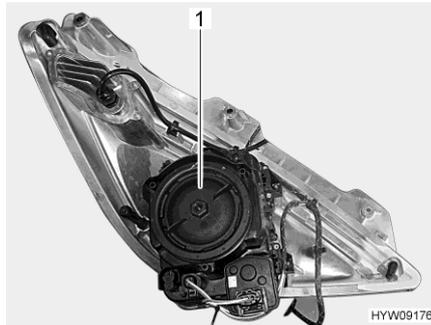

Fig. 228 Front headlight (rear side)
- Turn the housing cover (Fig. 228,1) in an anticlockwise direction and remove.
- Place the housing cover (Fig. 228,1) and tighten in a clockwise direction.